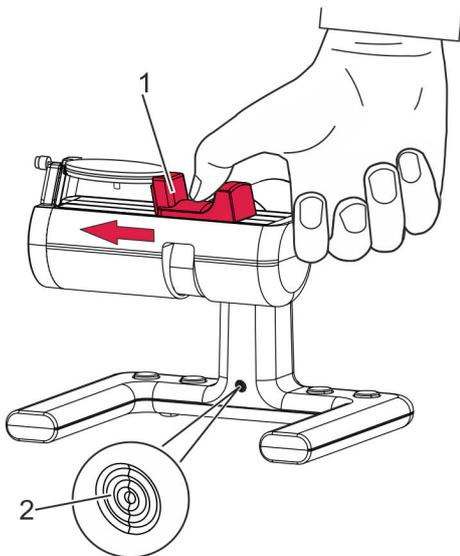

Fig. 15: Releasing the clamping jaw
3. ➤ Carefully guide the clamping jaw (Fig. 15/1) to the clockwork.
- The LED on the ChronoMaster (Fig. 15/2) flashes at the same frequency as the watch beats.